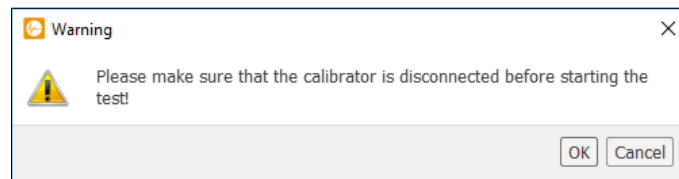
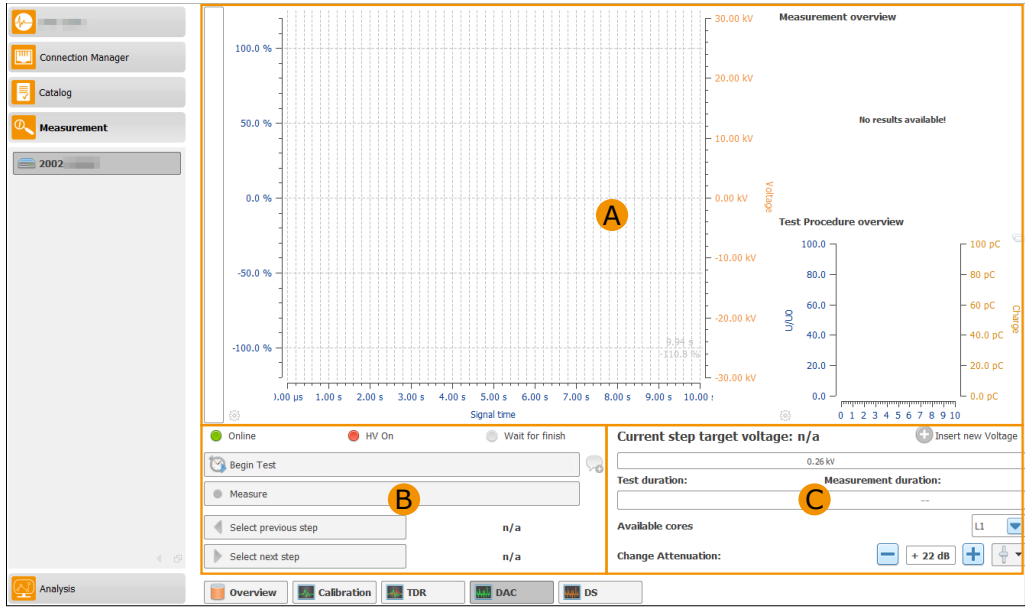
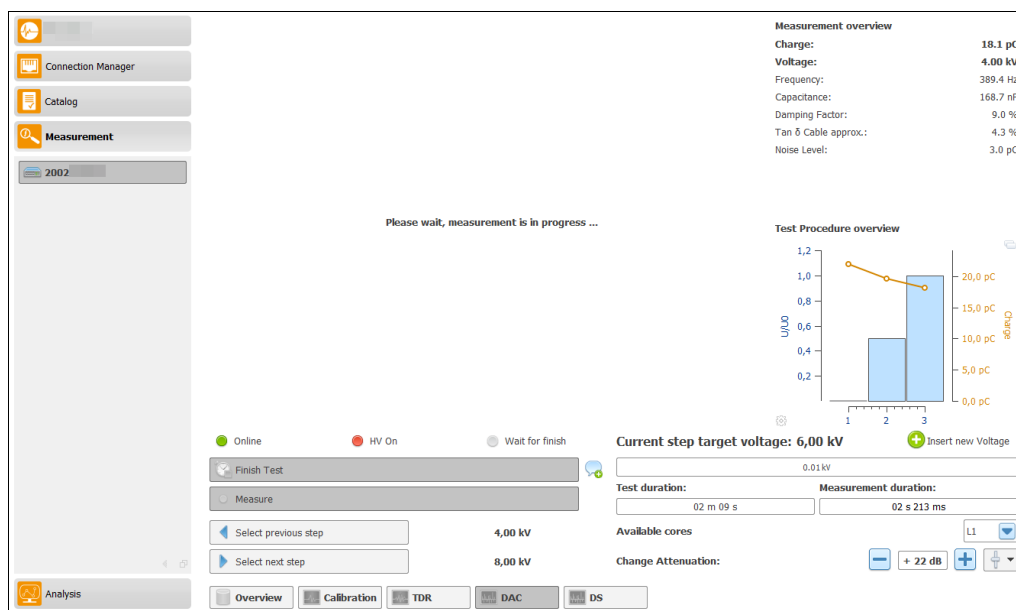

Figure 7.16: Calibrator removal warning
Figure 7.23: DAC measurement overview
Figure 7.24: Disabled result view during running measurement
For starting a test, the high voltage on the safety box must first be switched on. When starting a test, a warning message (cf. Figure 7.16) indicates that the calibrator must be removed.
This chapter describes the UI elements which are available for a DAC measurement in Advanced mode. Figure 7.23 shows the general structure of the measurement surface. **A** displays the measurement results after each high-voltage shot. The **B** section contains buttons that can be used to navigate within a procedure, as well as buttons to perform a test or trigger a shot. **C** displays current data and selects measurement settings.
**A** in Figure 7.23 displays the measurement results of the last shot. The following elements (cf. Table 7.9) are available:
**B** in Figure 7.23 shows elements that are needed to perform a DAC measurement. Table 7.10 describes the elements.
**C** in Figure 7.23 contains element for setting the device and displays measurement values. Table 7.11 describes the elements.
In order to carry out a DAC measurement, the high voltage must first be switched on at the safety box. Furthermore, it is necessary to start a new test. A test is necessary so that the individual shots can be assigned to this test. When starting a test, a warning message (cf. Figure 7.16) is displayed that the calibrator must be removed. After confirming the warning, the button *Begin test* will be renamed *Finish test*. Now it is possible to start with the measurement. For this the first shot can be released by pressing the button *Measure*. This means that the cable is charged up to the specified voltage and the measurement is then recorded. In the area **A** (Figure 7.23) the measured values and the diagram are hidden (Figure 7.24) until the new measured values are available.